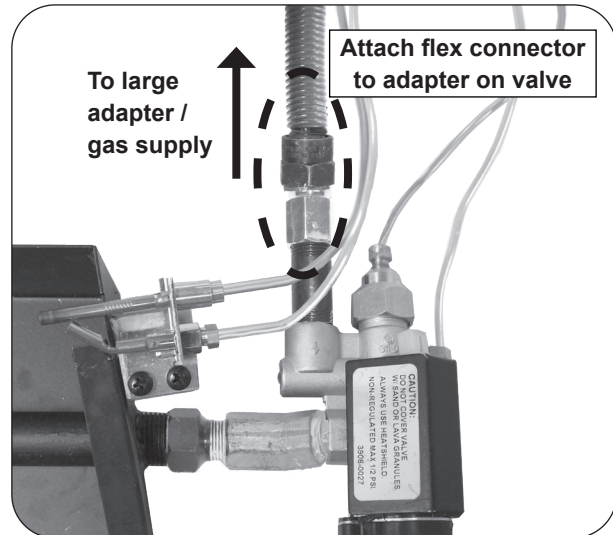

Fig. 8-1 Install flex connector to valve
3. Locate the burner flex connector kit. Discard the small adapter included with the kit. Then attach the open end of the connector to the small adapter found on the control valve. Tighten securely. See Fig. 8-1.